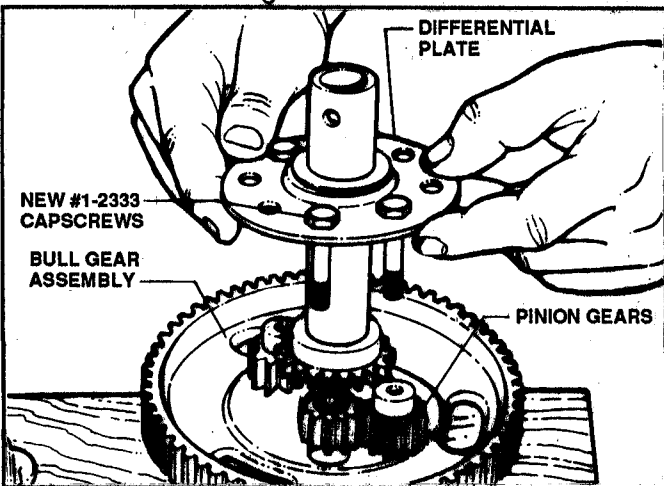

FIGURE 4.30
9. Insert new **SNAPPER #12333** capscrews through Differential Plate, Pinion Gears/Spacers, and screw into Bull Gear. See Figure 4.30.